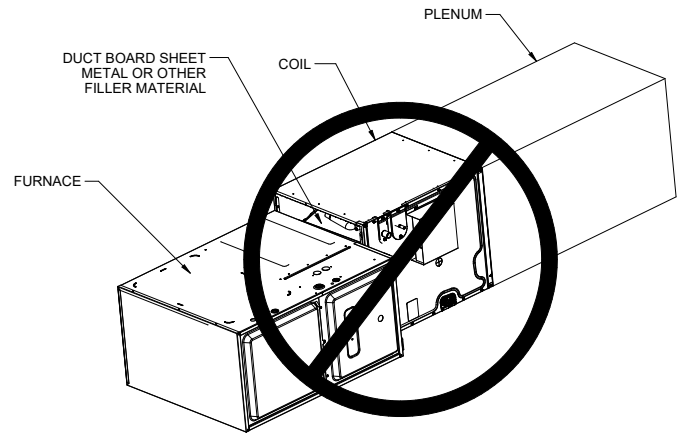
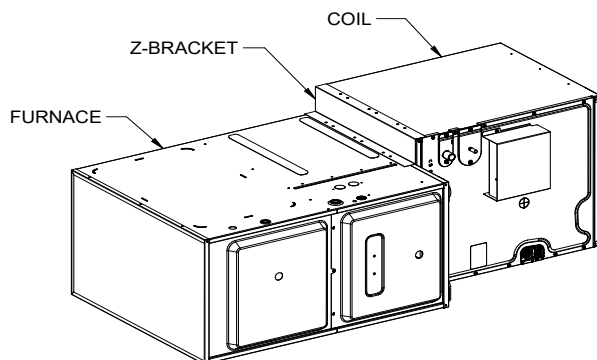

Figure 5D
Figure 5C
There is no conversion required to reverse from right to left application. Attach the duct flanges to the discharge side of the unit. If the coil and furnace combination are not similar in depth and width, use a field-supplied transition to center the furnace and coil openings (see Figure 4B). The supplied Z-bracket attachment should be used to attach the coil to a narrower furnace with the furnace is one size smaller than the coil (example: coil height is 21.0" and furnace width is 17.5". See Figure 5C). Figure 5D indicates incorrect coil furnace attachment method.
2. Please use Z-Bracket provided with units to fill the transition gap between furnace & coil when coil is one size larger than furnace. Additional gaps must be filled with insulated tape or putty to prevent air leakage Figure 5D indicates incorrect coil/furnace attachment method.